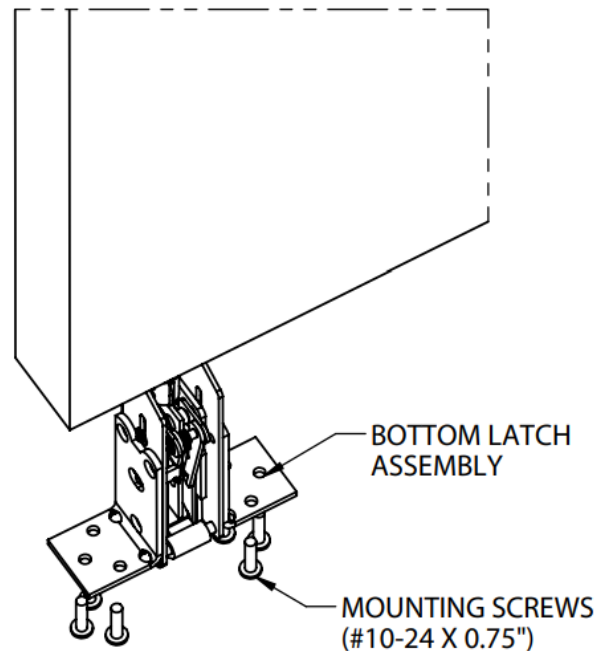

FIGURE 3-2
- B. Insert bottom latch assembly into door and fasten to bottom latch mounting bracket at bottom of door by supplied mounting screws (see Figure 3-2).